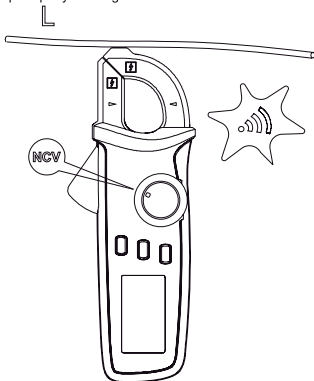

Figure 4
2. NCV noncontact electric field measurement (figure 4)